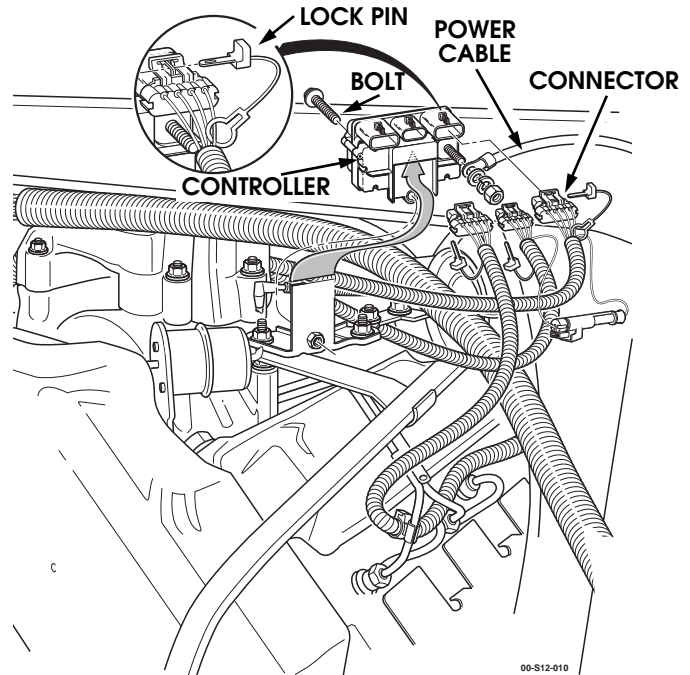

Figure 3-59: Glow Plug Relay/Controller Location
3. Disconnect power cable at relay/controller (Figure 3-59)